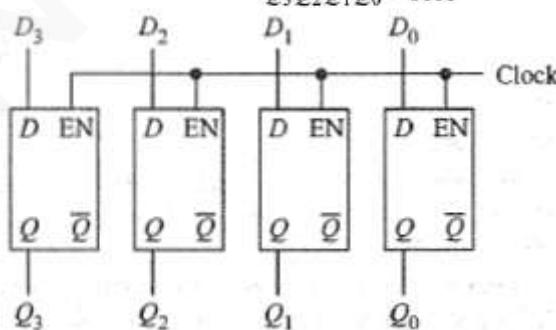

Figure 8.16: Storing a 4-bit word
- As shown in Fig 8.16, four D latches are driven by the same clock signal.